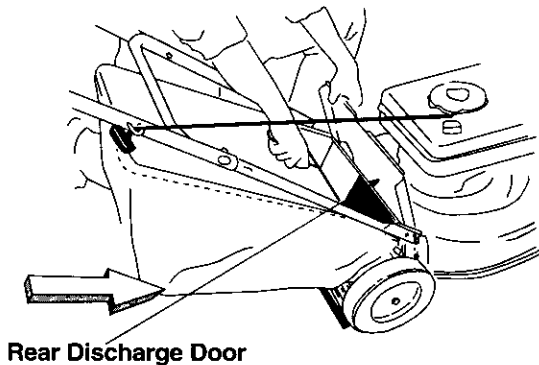

Figure 9
- Place the hooks of the grass catcher into the slots in the handle bracket assemblies on both sides. See Figure 9. Release the rear discharge door.
- Release the rear discharge door. See Figure 9.